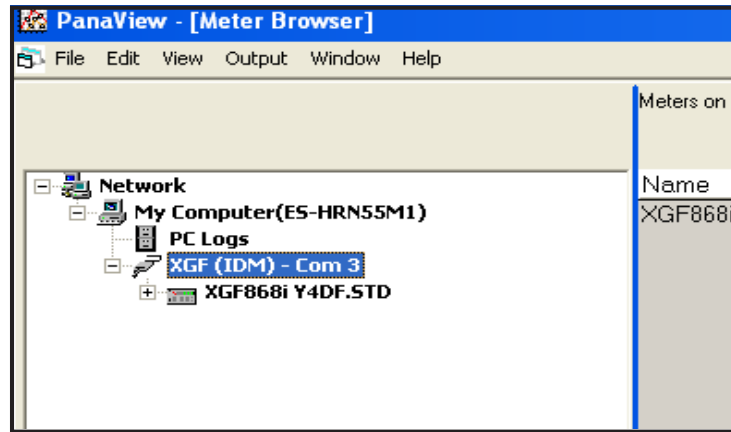
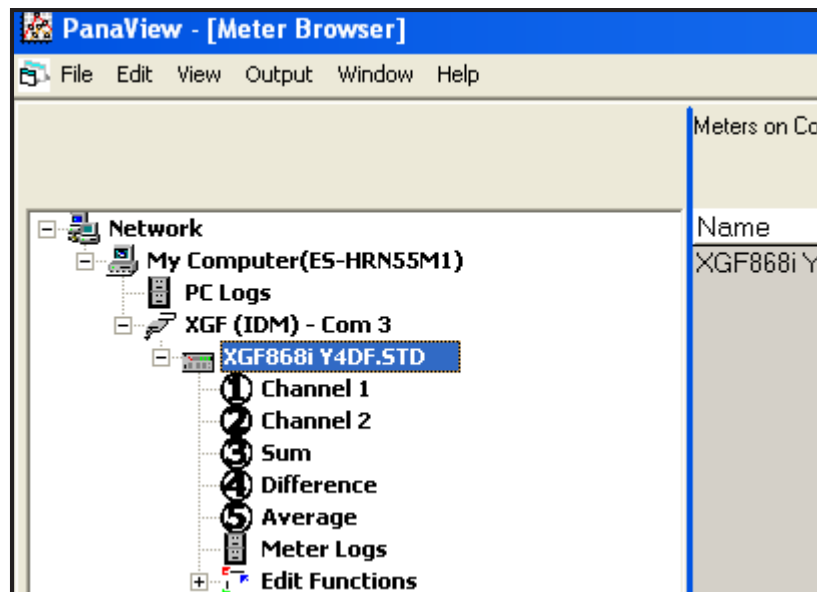

Figure 37: Updated Network Tree
Figure 39: Meter Tree with *Edit Functions* Option
If the initialization is successful, the *Meter Browser* shows a listing similar to *Figure 37* below.
1. From the meter tree in the *New Meter Browser* (see Figure 37 on page 89), click on the XGF entry. The screen now appears similar to Figure 39 below.